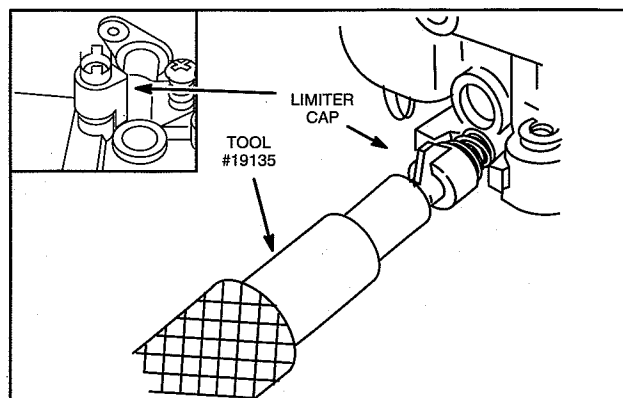

Fig. 135 – Install Limiter Cap
- b. Press limiter into position using knock out pin, Tool #19135 as shown in, Fig. 135.